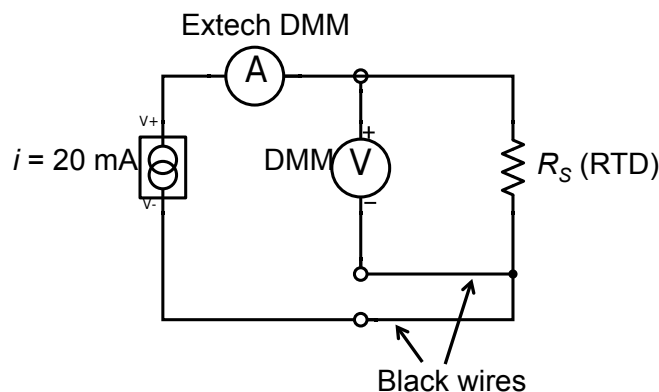

Figure 1 – A schematic of the RTD circuit.
3. Construct the circuit shown in Fig. 1.